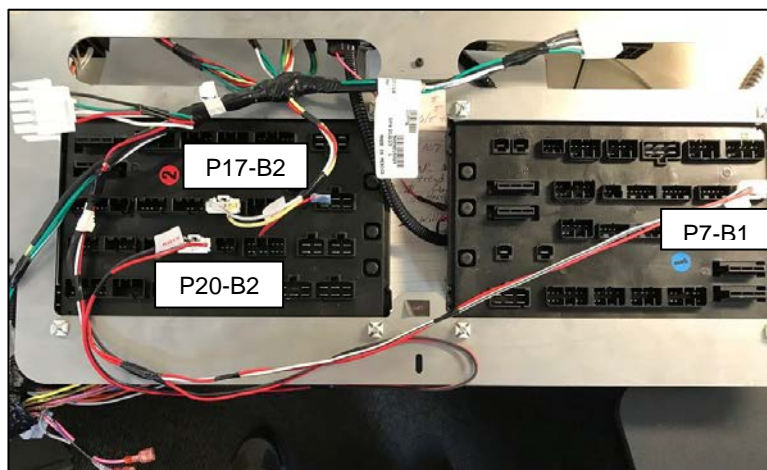

Figure 10: Location of Plug-ins on the Back of PC Boards
14. Remove harness TBB 52007511 from the back of the PC board and replace it with harness TBB 219022. See **Figure 10**. Both the old and new harness have the same connection points on the back of the PC boards and with connecting harnesses. Plug the connectors from the new harness into the PC board as shown in **Figure 10**.